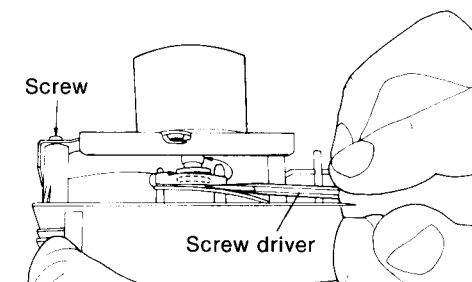

Fig. 8
- Screw down the flywheel bracket. (Fig. 8)